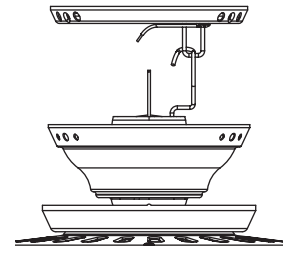

Figure 18 - Rotating the fan
- Rotate the fan 180° clockwise from the initial position when hanging the fan. The arrows on the hanger ball and on the ceiling plate should be pointing in the same direction and should be pointing towards the tab hole on the canopy. Refer to Figure 18.